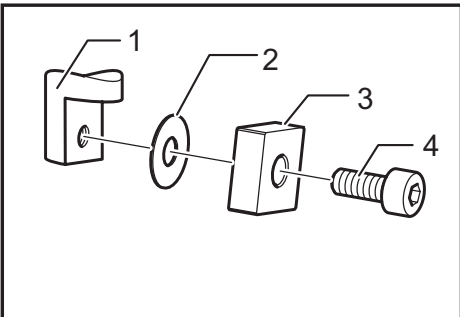

Fig.4
► **Fig.4:** 1. Blade holder 2. Thin washer 3. Upper blade 4. Upper blade securing bolt